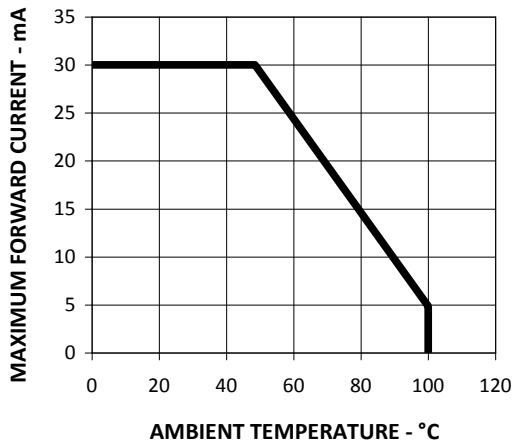

Figure 4. Maximum Forward Current Vs. Ambient Temperature. Derated Based on TJMAX = 110°C, RθJA=500°C/W
1. Derate linearly as shown in Figure 4.